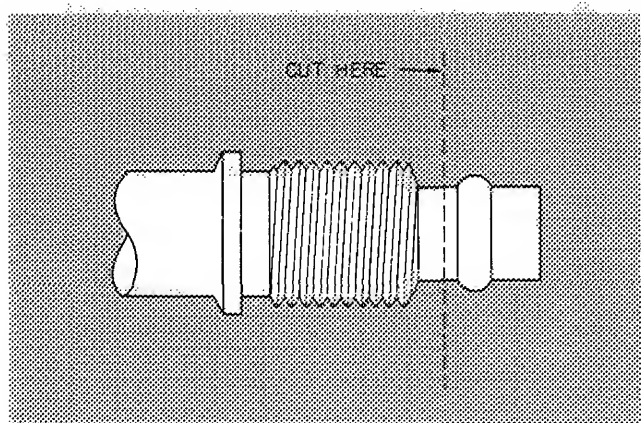

Fig. 10 — Repair of Mechanical Connection
**Leaking Mechanical Connection** — Frontseat condensing unit service valves and relieve refrigerant pressure in tubing. Back locknut off Compatible Fitting onto tube. Cut fitting between threads and seal ring head as shown in Fig. 10. Remove tubing section remaining in threaded portion of fitting. Discard locknut.